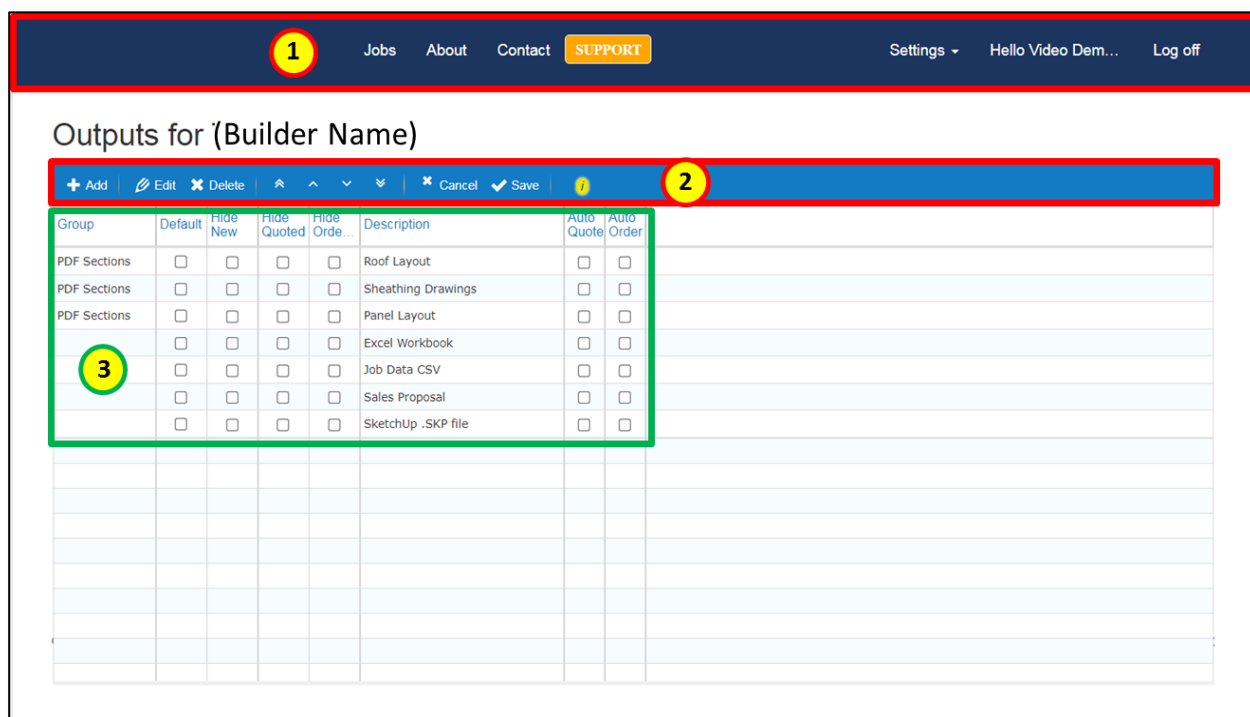

Figure 31: Parts of the Roofing Passport *Outputs* window used by System Administrators.
Setting up and customizing the Roofing Passport outputs for your organization is accomplished using the *Outputs Administration* page Shown in **Figure 31** below. To access this page, go to the *Page Header* and click on *Settings* → *Outputs*. Please take a moment to review the various parts of the Outputs window, as described below.
3. **Outputs List** – This section of the *Outputs* window displays all of the outputs that are currently available to your users. As you can see in **Figure 31** (previous page), the *Outputs List* contains eight (8) columns of information that are used to describe and configure each Output. Here is a brief description of the purpose and function of each of these columns:
NOTE – The Outputs List in **Figure 31** (previous page) shows the four outputs that Roofing Passport includes in your list by default. These four outputs can be deleted or modified by the Systems Administrator in any way he/she deems appropriate.